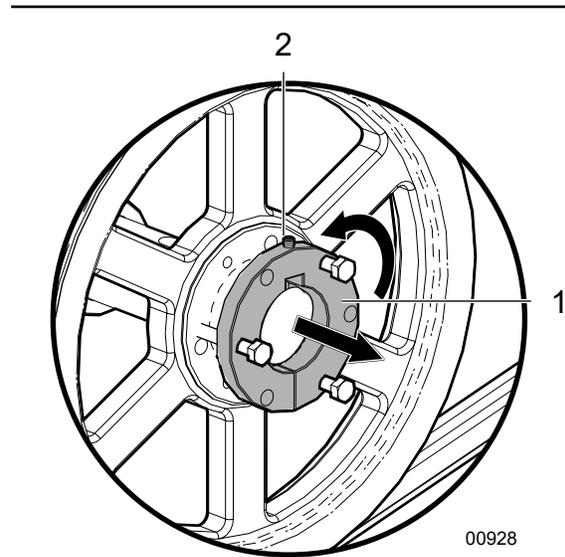

Fig. 57—Rotor Sheave
1. Loosen the set screw on the bushing attached to rotor sheave. See Fig. 57.